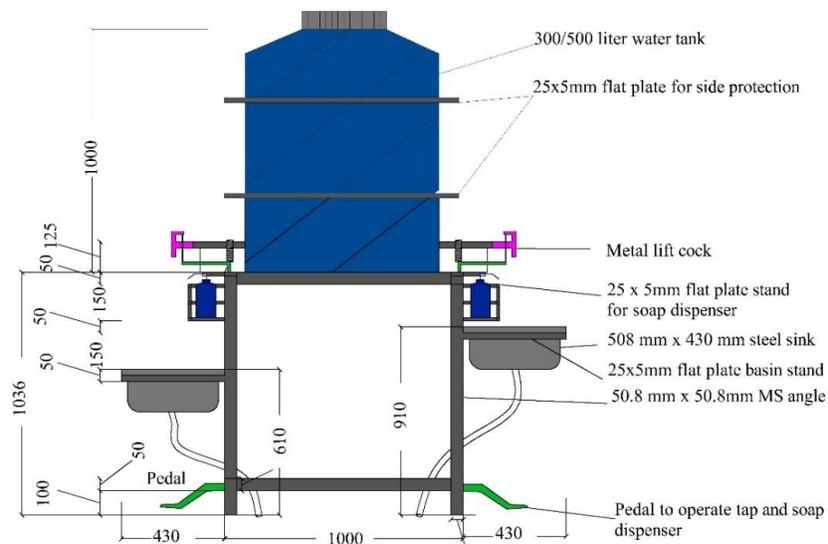

Figure 8 Multi-user inclusive large pedal operated handwashing station
- After painting frame and pedal set, a 508 mm x 430 mm steel sink fixed at a height of 910 mm in two side and 610 mm in another side for inclusive use purpose. (Figure 8). The steel sink could be replaced by plastic or ceramic basin as available.
- A metal lift cock is attached with necessary plumbing accessories for water dispensing for each option (Figure 8).
After fixing all plumbing accessories for water supply connection and drainage the station is ready for use (Figure 8)